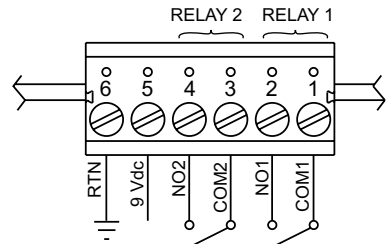

Figure 2.7 Relay Connections
It is recommended that you ground your unit by wrapping a wire around the mounting tab screw and tightening a lock washer so that it embeds itself into the metal of the mounting tab. Or by connecting a wire to the Return/Ground position of the relay connector, see **Figure 2.7**.
- To wire relay connector. (Refer to **Figure 2.7**)